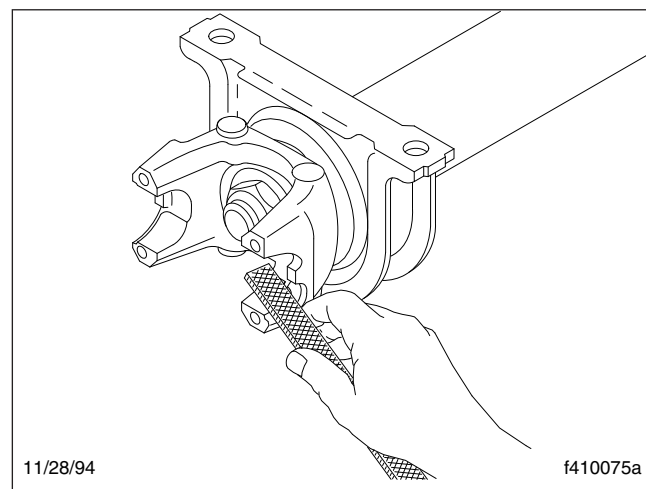

Fig. 6, Removing Burrs From a Half-Round End-Yoke Cross-Hole
2. With the U-joints uncoupled from the end-yokes, check all driveshaft and input/output shaft end-yoke cross-holes for raised metal. Using a rat-tail or half-round file, remove burrs or raised metal. See **Fig. 3** for full-round yokes, or see **Fig. 6** for half-round yokes.